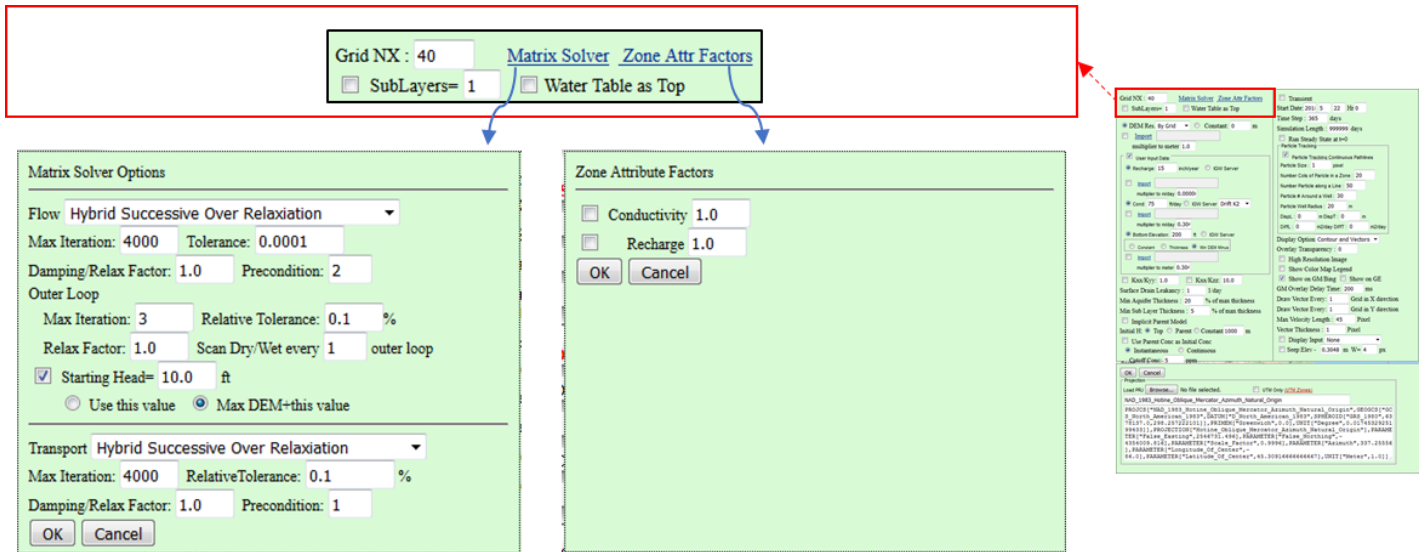

Figure 3-2: The Model Grid and Solver settings available in the Default Parameters and Options menu. Default values/settings are shown.
In the top-left portion of the Default Parameters and Options menu, the user can select/input a number of model grid options. This includes: the number of model nodes in the horizontal (west-east) direction (NX), the number of sub-layers in the vertical direction (i.e., into the earth), matrix solver settings, and multiplicative factors for spatially-explicit raster files of hydraulic conductivity and recharge (see Figure 3-2).
The default grid and matrix solver settings are shown in Figure 3-2.